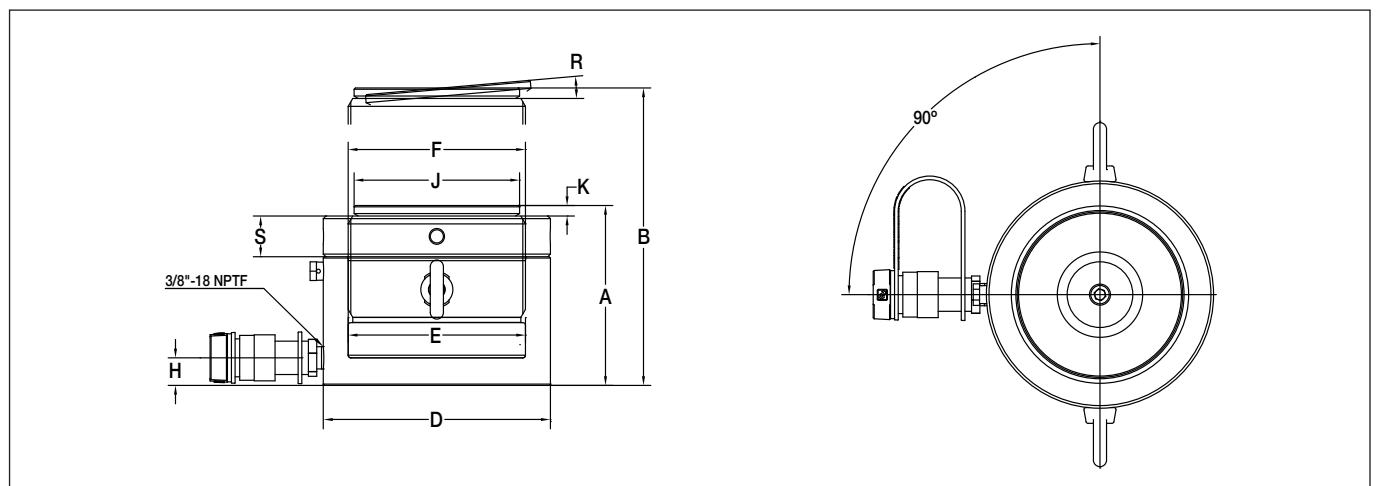

Figure 6, Dimensions - LPL-Series
11.1 Dimensions - Imperial (See Figure 6)
11.2 Dimensions - Metric (See Figure 6)